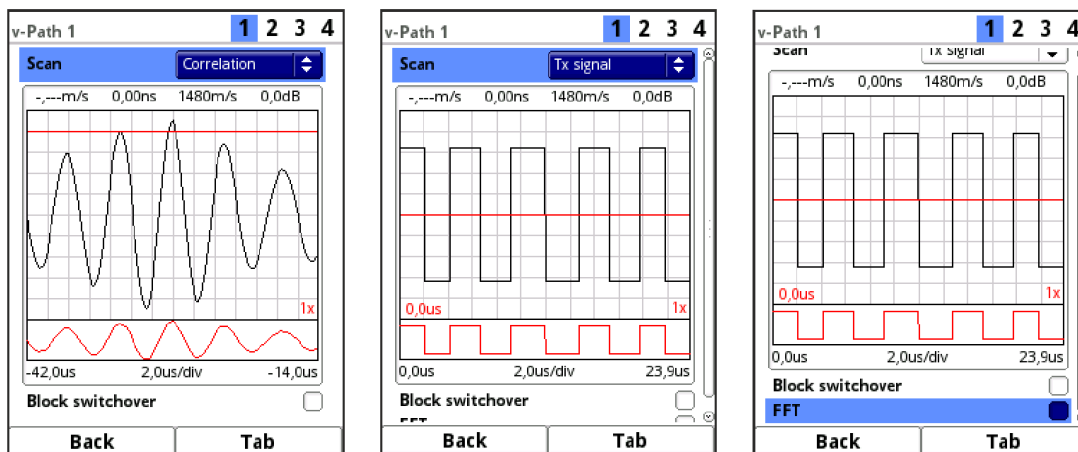

Fig. 44-4 Correlation / Transmission Signal
- **Correlation** (Fig. 44-4)
- **Transmission Signal** (Fig. 44-4)